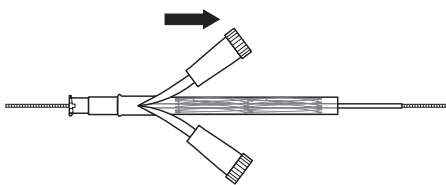

Fig. 2
8. Advance the metal cannula and stent, pre-loaded within the Peel-Away stent loader, over the wire guide (non-cuffed end first). (Fig. 2)